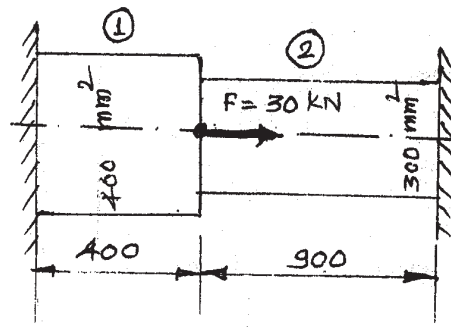

Fig. 9
b) A load member is as shown in fig. 9. The loading is initially done at 20°C . The temperature the rises to 60°C . Determine the nodal displacements and the elemental stresses developed. [10]